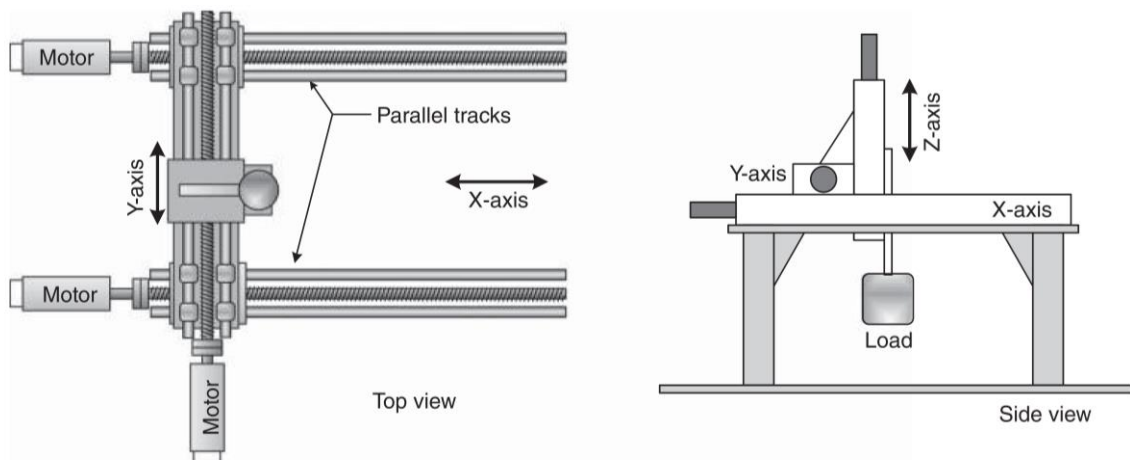

Figure 4: Gantry machine with two parallel linear tracks for X-axis
- 4) The gantry machine in Figure 4 carries a 20 kg load. The X-axis of the machine uses two 404XE-T13-VL linear tracks in parallel. The Y-axis and Z-axis use 403XE-T04 and 402XE-T04 linear tracks by the same manufacturer. The X- and Y-axis tracks have 10mm screw leads. The Z-axis has 5mm screw lead. Each axis is equipped with a BE230D motor. Each motor is connected to its axis using a cylindrical aluminum coupler with 28mm outer diameter and 38mm length. Referring to the data sheets, calculate the acceleration and continuous torque required to move each linear track of the X-axis at 250 cts/ms speed for 1s. Acceleration time is  $t_a = 50$  ms.